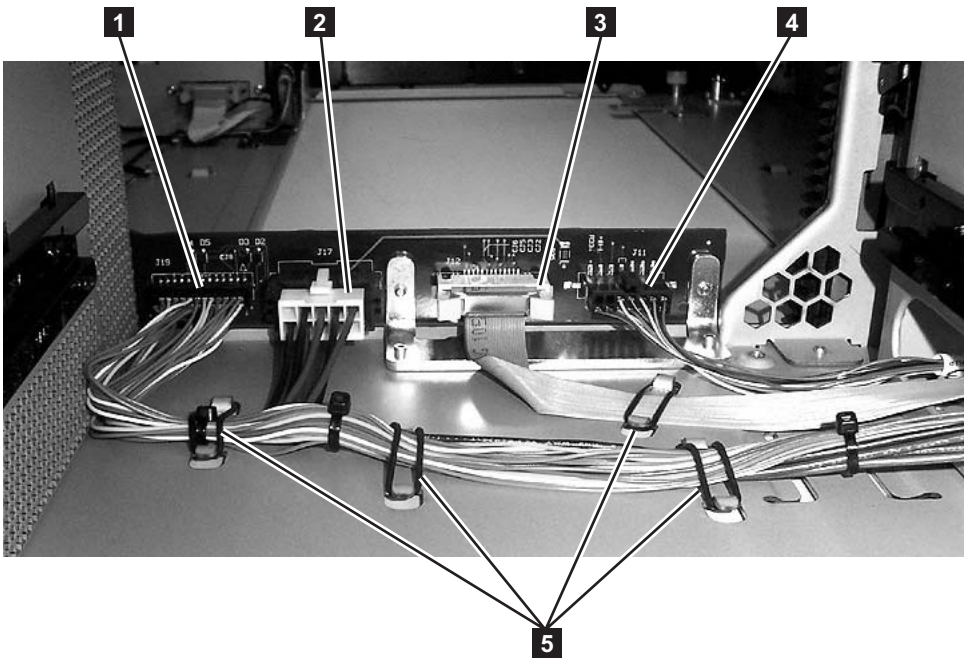

Figure 7-12. Backplane Connect Board connectors (back, drive sleds removed)
4. Visually check, and reseat if necessary, all of the connectors on the back of the Backplane Connect Board. See **1**, **2**, **3**, and **4** in Figure 7-12.